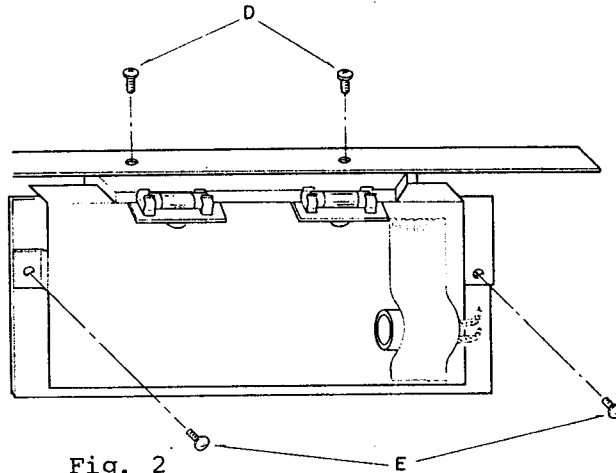

Fig. 2
- 6) Remove two set screws (marked D on Fig. 2) and take the lamp assembly to pieces.
- 7) When disassembling the frequency indicating printed circuit board, remove two set screws (marked E on Fig. 2).